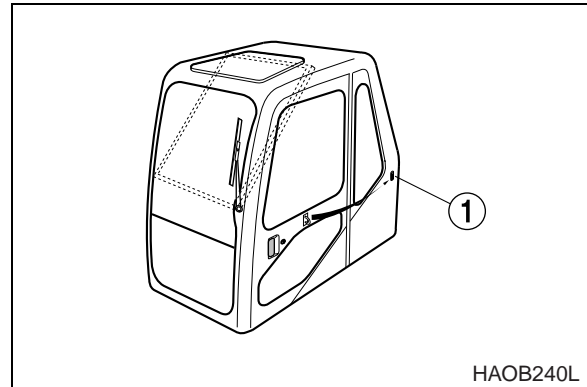

Figure 117
1. The door side latch (1, Figure 117) is used to secured the door to the side of the cab when it is opened.